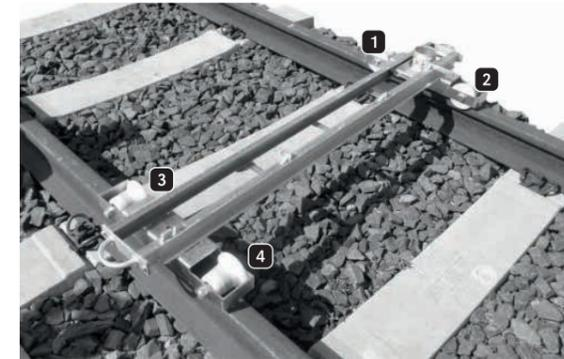

Figure 19: Trolley with 4 wheels
- Always ensure that the wheels grip the track (see Figure 19: Trolley with 3 wheels on the track).
Lift the trolley using 2 people, and place on the railway track at points 1 to 4 (see Figure 19: Trolley with 4 wheels).